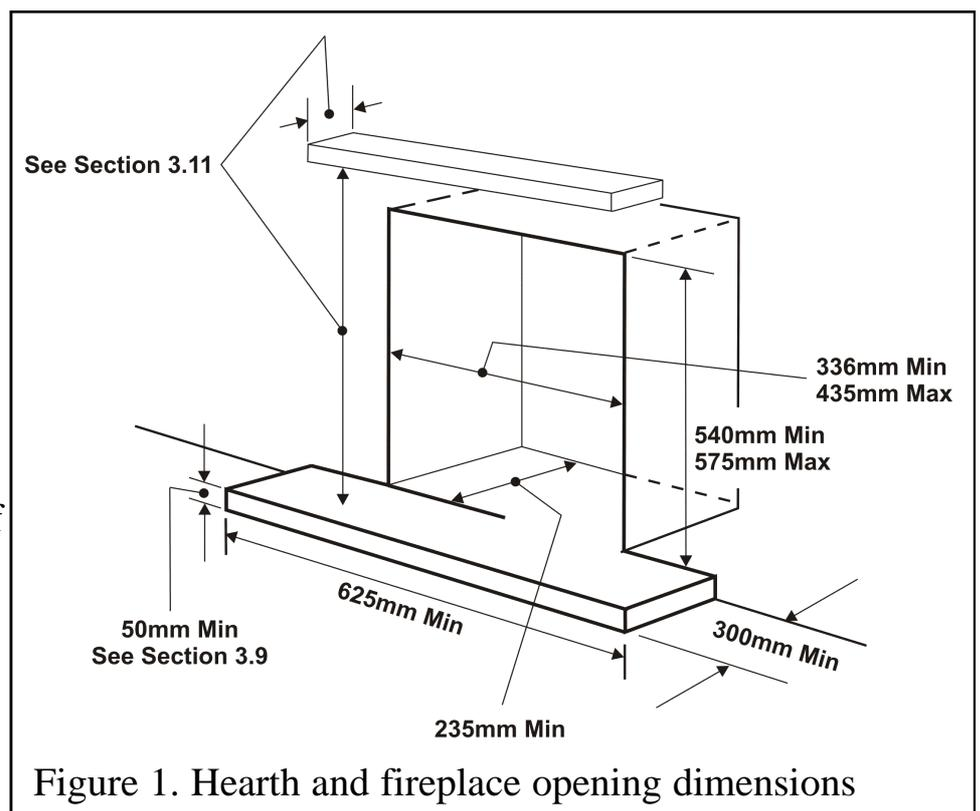

Figure 1. Hearth and fireplace opening dimensions
- It is recommended that a hearth should be installed as in section 3.9 (See figure 1).
3.2.2 To a fireplace incorporating a metal flue box conforming to BS715 and BS EN 1856 part 1 or with a minimum internal depth of 165mm. Incombustible mineral wool insulation of not less than 50mm thickness must be applied to the top surface of the firebox (See figure 2) and it must stand on a non-combustible hearth (See figure 1).
The appliance must not stand on combustible materials or carpets (See figure 1).